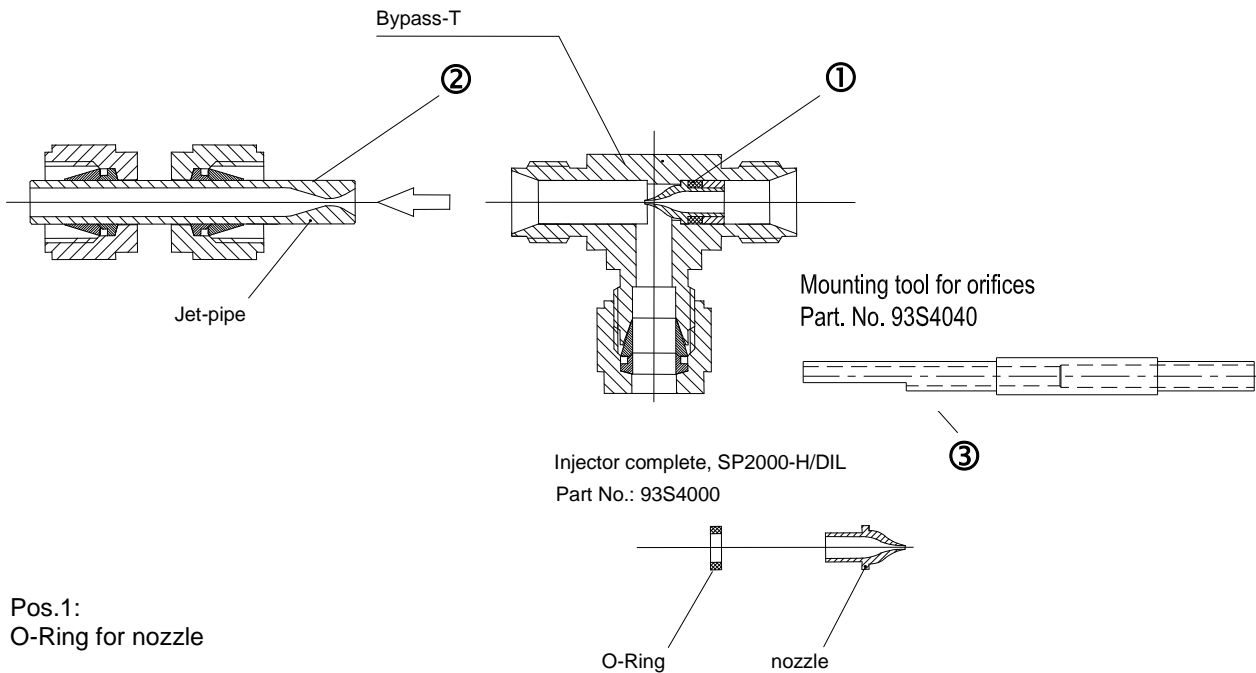

Figure 18 Bypass Injector unit with o-ring (180 °C (356 °F) version)
- Push out the injector nozzle from the opposite side (tool pos. ③, Fig. 18) and change it with sealing;
Figure 18 shows the injector unit of the 180°C (356 °F) version.
- Unscrew the jet pipe (pos. ②) from the Bypass-T;
- Push out the injector nozzle from the opposite side (tool pos. ③, Fig. 18);